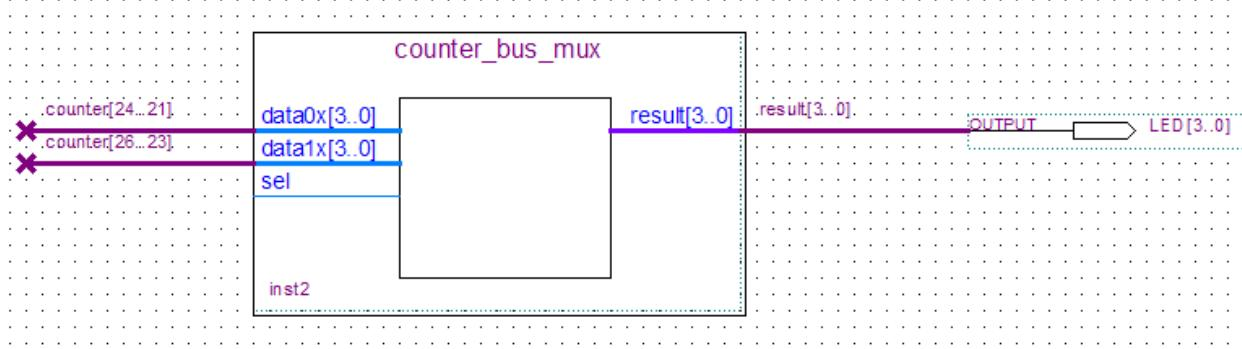

Figure 6-39 Rename the output pin
20. Rename the output pin as **LED [3..0]**. (see **Figure 6-39**).